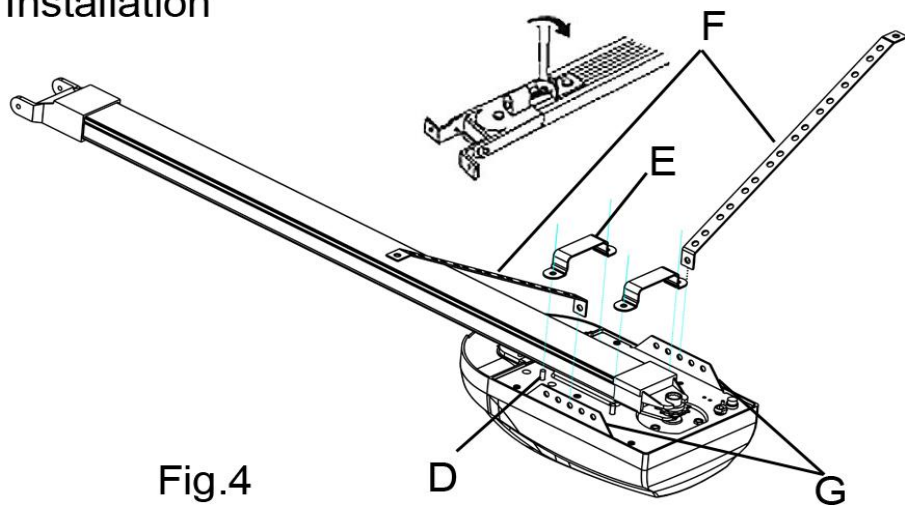
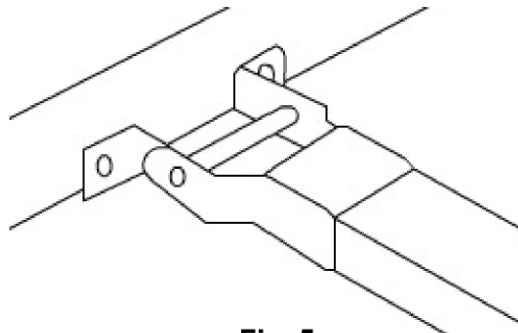
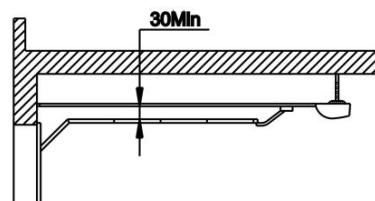
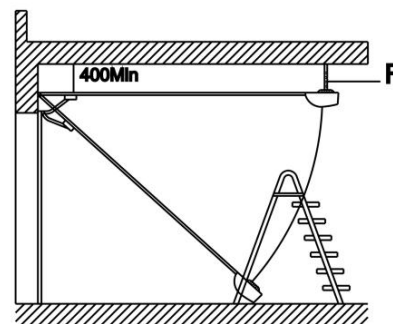

Fig.4
Fig. 5
Fig. 6
Fig. 7
Before attaching the motor brackets (E) (FIG 4) screw an inverted nut (6mm) (D) on each stud then position the brackets (E) on the studs and secure them in-place using a second 6mm-nut and then lock the brackets to the rail by tightening the inverted lock nuts (D). Connect the opener edge (G) to the doorframe or to the ceiling iron angle (F) (Fig.5), maintaining a minimum gap of 30mm from the top panel's maximum height (Fig. 6). Check measurements for drilling insert and lock the brackets F and fix the opener to the ceiling with the correct fixings (Fig. 7). Cut off any hanging brackets excess.
4. Assembly header sleeve (Fig. 4)